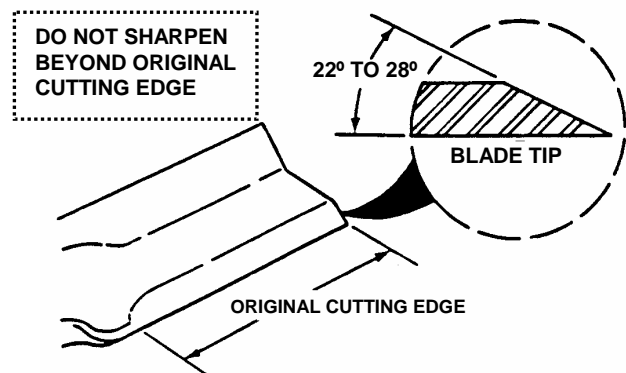

FIGURE 4.14
7. If blade is in good condition, sharpen at 22 to 28 degrees. DO NOT sharpen beyond existing cutting edge. See Figure 4.14.